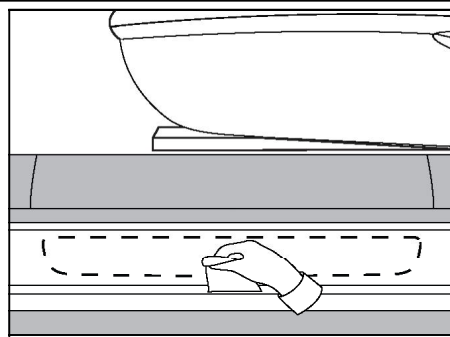

FIGURE 1
1. Wipe area where the sill plate is to be applied using supplied alcohol prep pad and follow with a dry wipe to remove any residual alcohol (Figure 1).